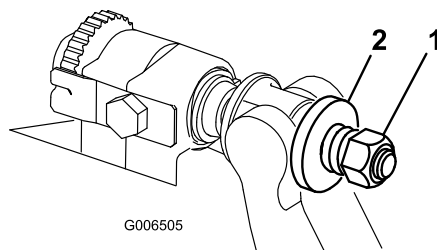

Figure 32
- Tighten spring tension nut until spring is collapsed, then back off 1/2 turn (Figure 32).